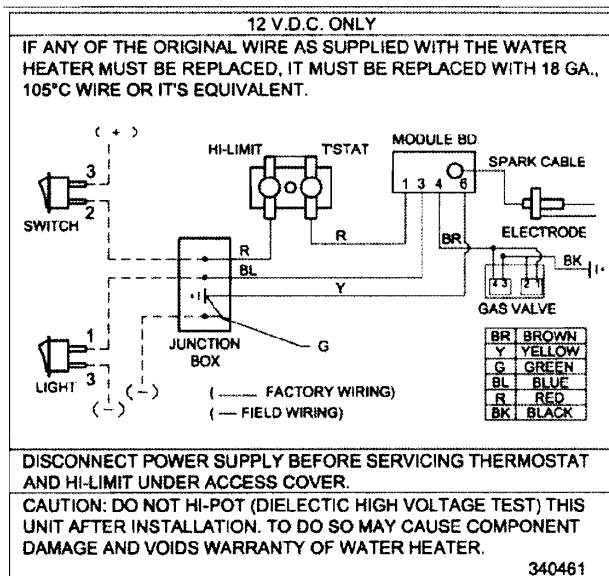

Figure 7
D. Make the 12 Volt D.C. electrical connections following the wiring diagram illustrated in Figure 7.